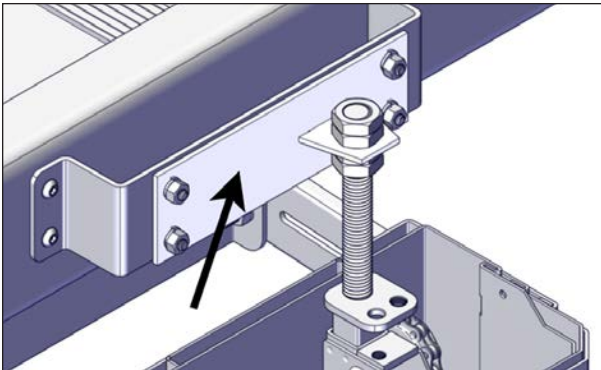

FIGURE 111: JACK ADAPTER SCREW REINSTALLATION
4. Gently slide down the sleeve assembly, see Figure 111.
5. Reinstall the jack adapters, but not the sleeves. Reinstall the 1/4-20 x 3/4" carriage bolts (4), see Figure 111.